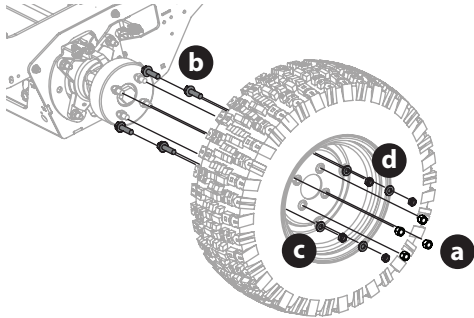

Figure 52
3. Remove the four lug nuts (a) to remove the inner wheel (Figure 52).
4. If replacing the inner tire, remove the four hex screws (b), washers (c) and jam nuts (d) that hold the mounting screws in place for the dual wheel adapter (Figure 52).